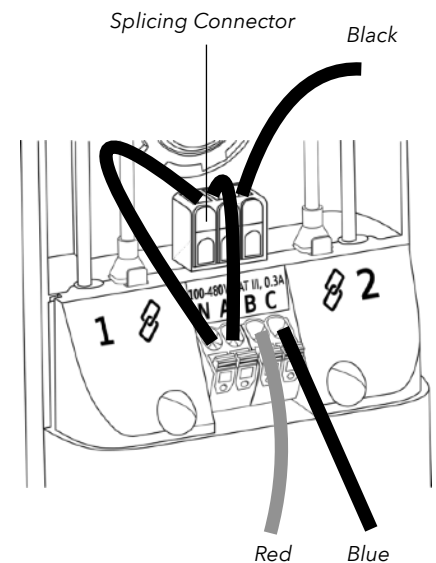

Fig 11
- Three-Phase Delta Panel. *Fig 11.*